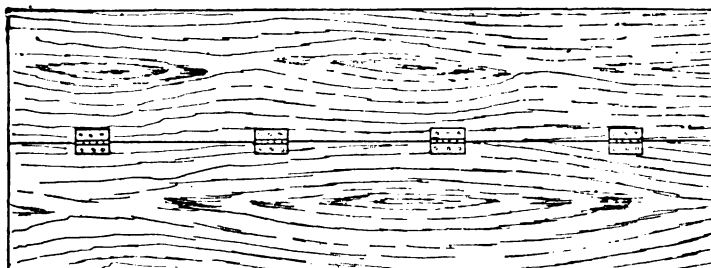

FIG. 3
material mortised and tenoned, the two parts being hinged together with 2½-in. back flaps. The board should be formed of two pieces of pine 11 in. wide and about ½ in. thick; these should be jointed and hinged together from the underside, as shown at Fig. 3.
**Scribing Skirtings to Stairs.**—The accompanying illustrations show a simple and accurate appliance for scribing skirtings, etc., to stone, wooden, concrete, or other stairs. It can be made a more complicated and highly finished appliance, but its most easily made form is here shown. Fig. 1 is a general view of the skirting board and appliance in position ready for scribing. On it are reproduced the outlines A' B' of the treads and risers A and B as they are to be cut. Figs. 2, 3, and 4 show respectively sectional plan, elevation, and sectional elevation to a larger scale. To construct the appliance, commence with the blade C (Fig. 3). Take two pieces of pine, 15 in. by  $\frac{1}{2}$  in. by  $\frac{3}{4}$  in., and groove the two inside edges as shown on sectional plan (Fig. 2). Take another piece, 21 in. by 3 in. by  $\frac{3}{4}$  in., and tongue it on both edges. Put these